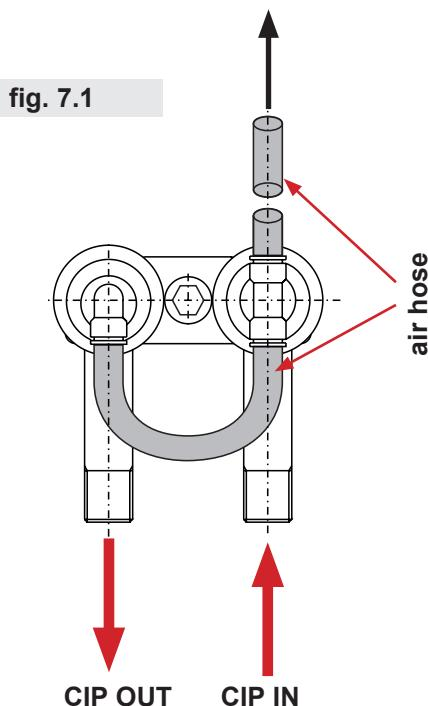

fig. 7.1
7.4. Hosing of leakage valves: see fig. 7.1.